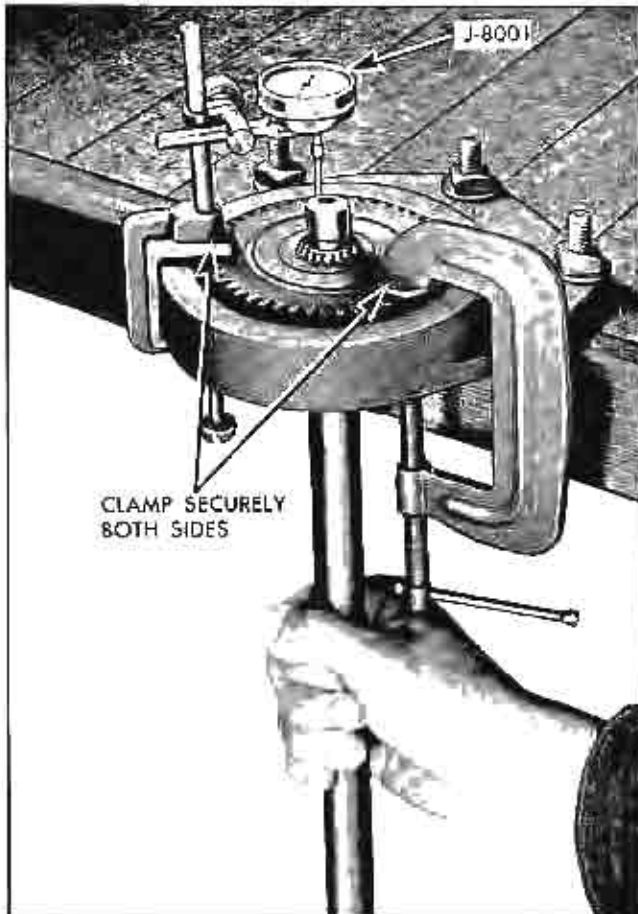

Fig. 82 Measuring End Play of Rear Unit Sun Gear on Mainshaft
a. Clamp sun gear and mainshaft assembly in holding fixture J-6116 using "C" clamp and dial indicator J-8001 (Fig. 82). Gear must be firmly clamped on both sides so it cannot give.